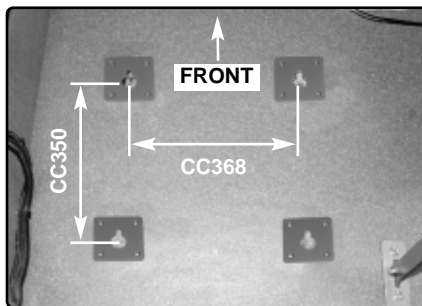

Fig. 2.
2. Ensure that the centre-to-centre distance between the keyholes is $L = 350$ mm and $W = 368$ mm, and mark the hole pattern for the guards on the floor of the vehicle. (Figure 2).